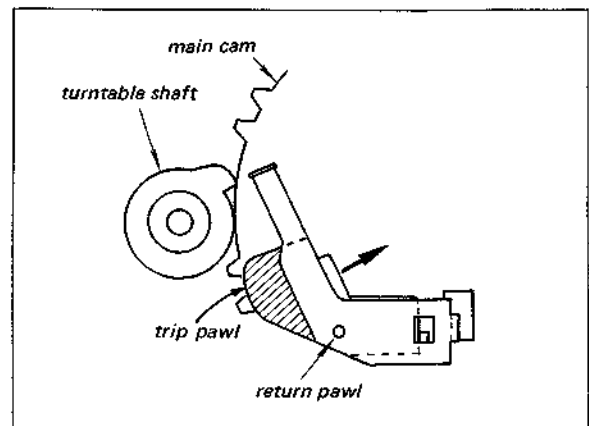

Fig. 3-4. Automatic return position adjustment (1)
5. Move the trip pawl in the arrow direction in Fig. 3-4, as far as it goes.